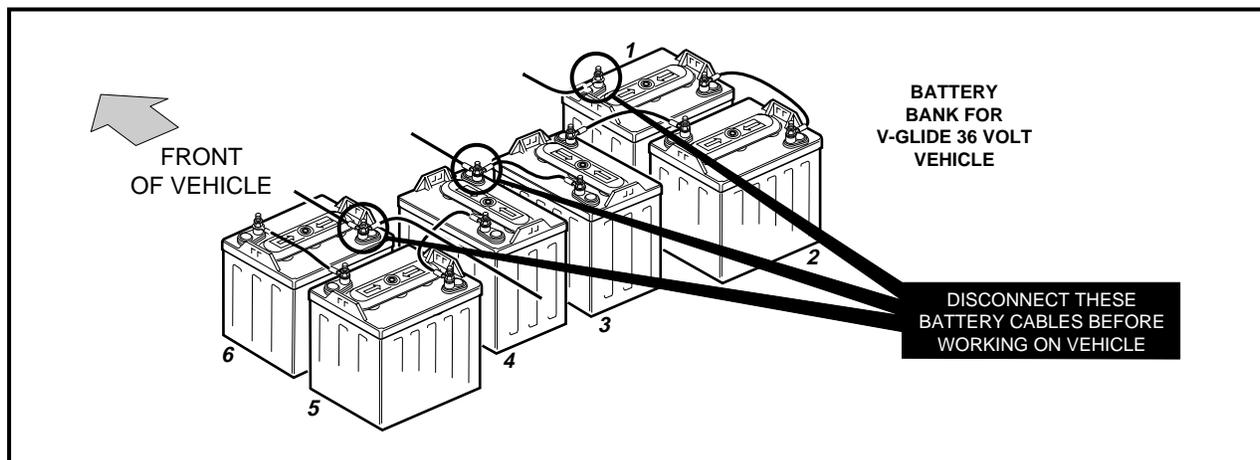

Figure 11-1 V-Glide Battery Configuration
- TO AVOID UNINTENTIONALLY STARTING THE VEHICLE, DISCONNECT BATTERIES, NEGATIVE CABLE FIRST, AS SHOWN IN **FIGURE 11-1, PAGE 11-1.**